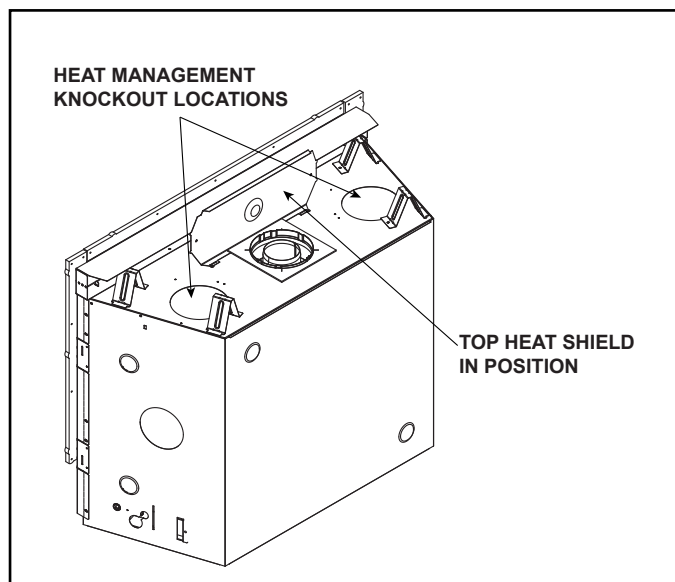

Figure 6.2 RAVE42-IFT-B B / RAVE36-IFT-B
2. Fold up top heat shield to 90 degrees as shown in Figure 6.2.
- Locate the two heat management ports on the top of the appliance. Either one or two Heat-Zone®-Gas Kits may be installed. See Figure 6.2. Remove the knockouts from the appliance with a tin snips.